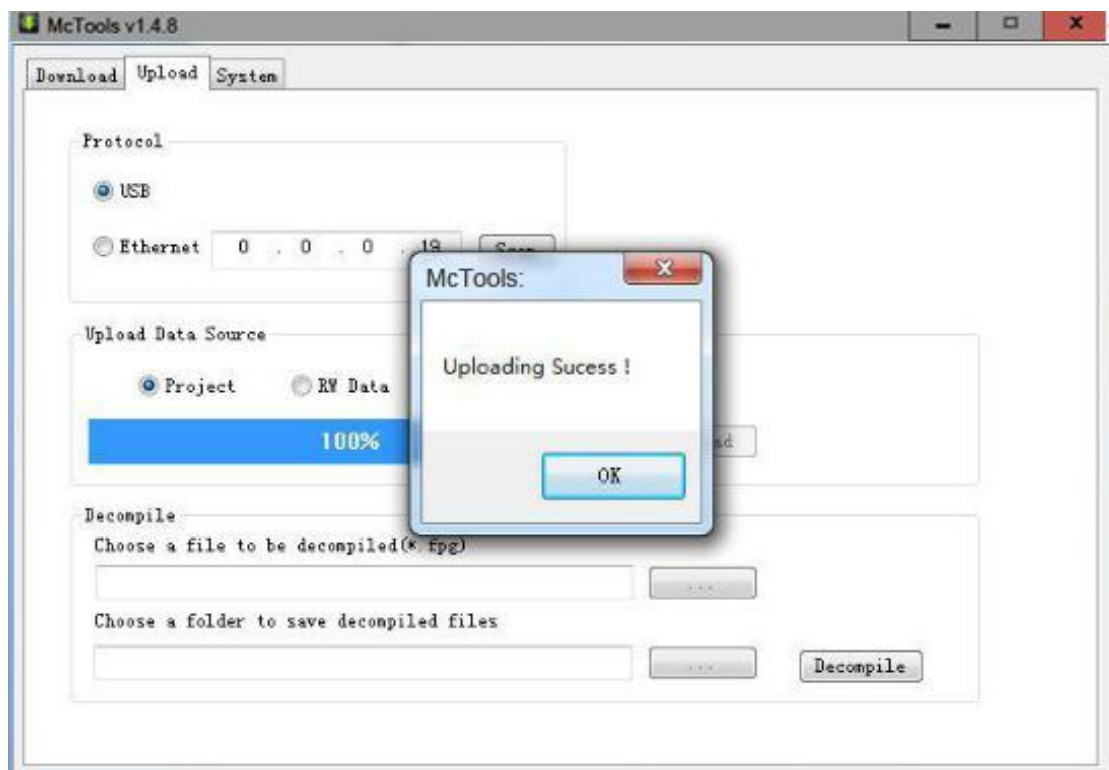

Fig. 24
③ Select the project uploading path and save the file name, and click "Save".
④ If the screen is correctly connected to the computer, the packaging operation will be started for uploading. Select the "Project" option, and click the "Upload" button, as shown in Fig.
23. When the uploading operation is finished, the “Uploading Success!” dialog box pops up, as shown in Fig. 24. Then click the “OK” button.